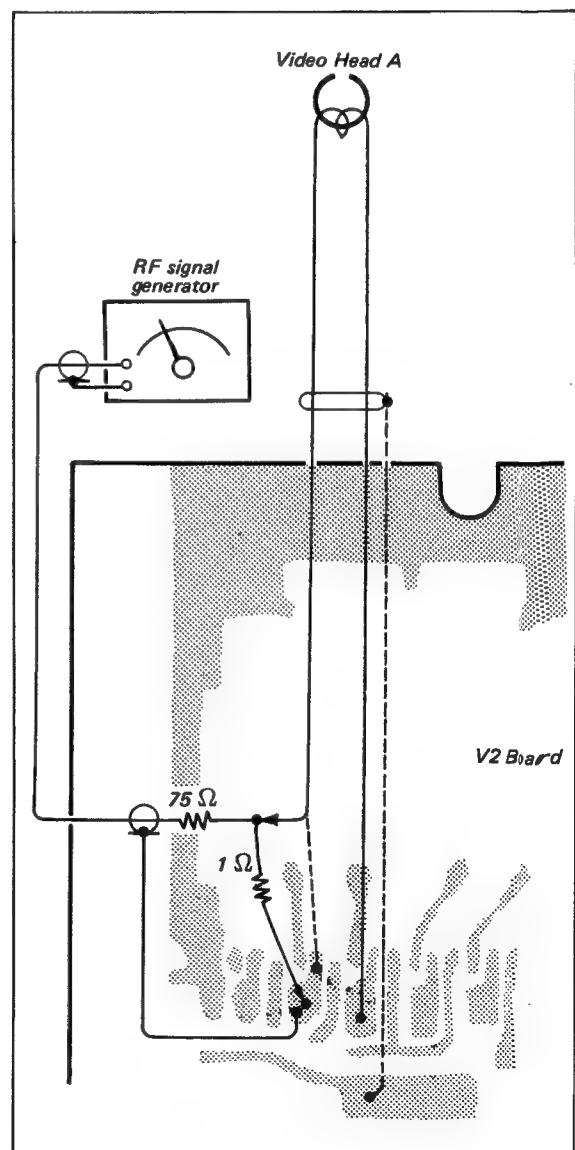

Fig. 5-5. Set-up for adjusting video-head resonance
Set-up: See Fig. 5-5.
1. Lift the orange lead of the cable to the "A" head at the V2 Board and connect the resistive network shown in Fig. 5-5.